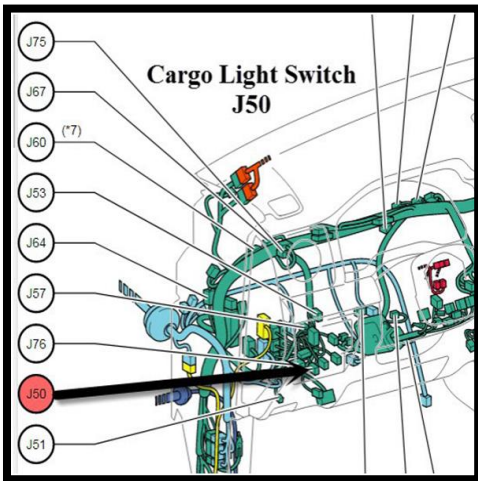

Fig. 5
- Run Wire – PIN 5 on connector J50 (Fig.5 and 5a).